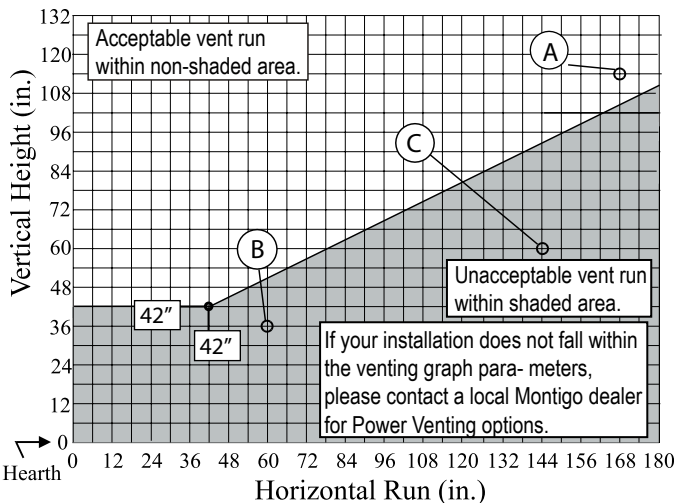

Figure 12. H\*38DF\* Top Vent Venting Graph for wall mounted terminations.
- Once the proposed venting layout has been determined refer to **Figure 12, 12a, or 15** to ensure the layout is acceptable.
- Venting runs *must* fall within the limits set by the venting graph, see **Figure 12 or 12a**.
Measure the vertical height from the fireplace hearth to the centre of the termination and the horizontal run from the fireplace flue collar to the wall flange of the termination. Plot on the Venting Graph **Figure 12** with an 'X'. If the 'X' falls on or above the top boundary of the shaded area, the installation is acceptable.
Figure 13. Top Vented, wall mounted installation with one 90° bend. The vent run must comply with Venting Graph for Top vent, wall mounted terminations, Figure 12 or .